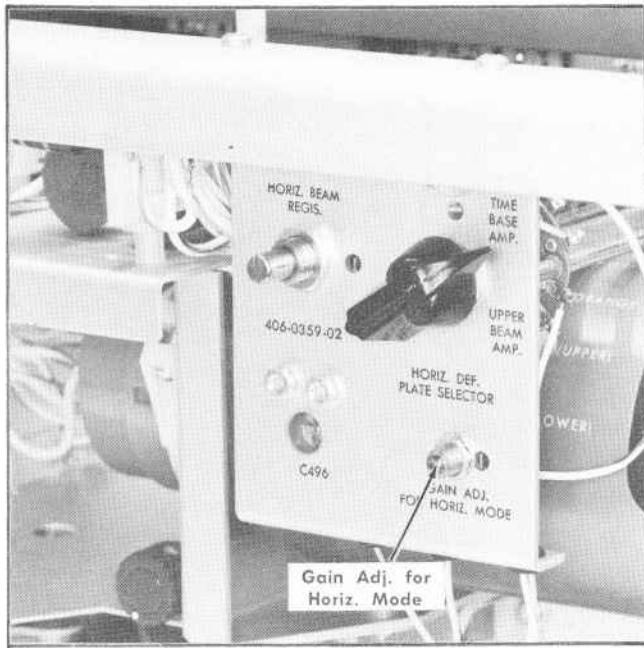

Fig. 6-32. Location of Gain Adj. for Horiz. Mode (step 29).
- Adjust R478, Gain Adj. for Horiz. Mode (see Fig. 6-32) for exactly 8 centimeters of horizontal deflection.